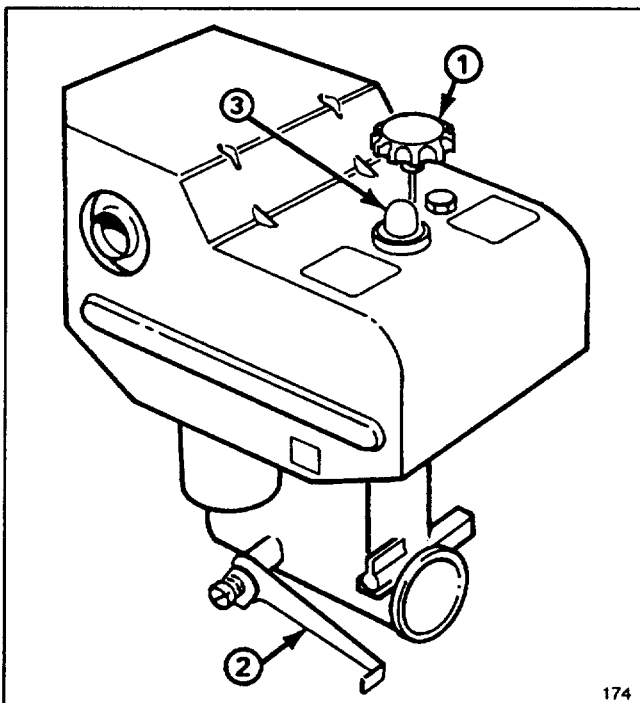

Figure 10
Throttle (Fig. 10)—Moving the throttle upward increases the engine speed.
Choke (Fig. 10)—Choke is located on left side of engine. Push choke down to FULL choke position to start a cold engine. As engine warms up, move choke gradually to OFF.
Primer (Fig. 10)—Press primer to pump small amount of gasoline into engine for improved cold weather starting.
3. Move choke to ON choke position (Fig. 10).
5. Depress primer (Fig. 10) five times.
7. After engine starts, immediately move choke (Fig. 10) to $3/4$ position. As engine warms up, move choke to $1/2$ position; then to OFF position. If engine falters, return choke to $1/2$ position. When engine warms sufficiently, move choke to OFF position.